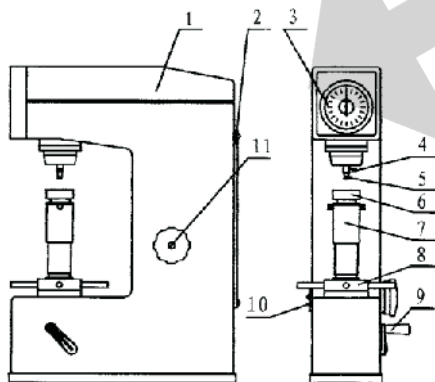
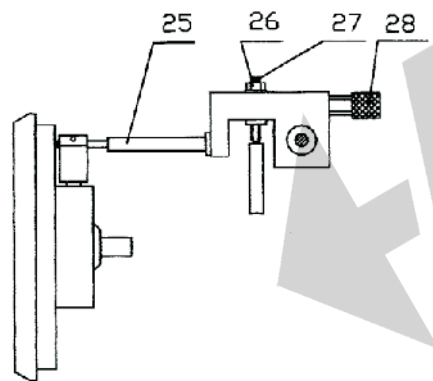

Figure 2
Figure 5
- After the hardness tester is properly placed (see figure 2), remove the top cover (1). Untie the fastening white gauze tape on the extension rod (25, figure 5), then promptly replace the top cover to prevent dust from coming into the tester. Open the rear cover (2) and remove the white gauze tape on moveable parts. Wipe off the anti-rust oil on the lifting screw and apply some thin lubricating oil instead.
- ## 3 Adjustment of the hardness value display (figure 5).
- The accuracy of the tester is calibrated at factory. If any error is caused by improper handling during transportation, operator can make adequate adjustment but in prior to do that he shall thoroughly understand the structure and working principle of the tester apparatus. The procedure is as following: Remove the top cover. If displayed value is lower than the actual hardness of standard block, loosen M4 nut (26) and slightly turn in screw (28) clockwise, then tighten the nut and make the test again until the displayed value falls in the specified tolerance. If displayed value is higher, turn the screw counterclockwise.